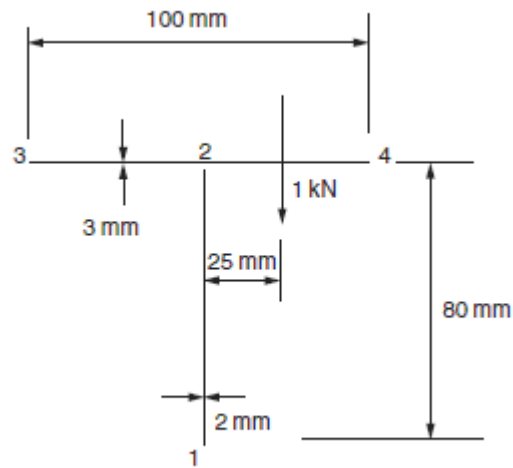

Figure 9:
5. Determine the maximum shear stress in the beam section shown in Figure 9 stating clearly the point at which it occurs. Determine also the rate of twist of the beam section if the shear modulus  $G$  is  $25\,000\text{ N/mm}^2$ . [16]